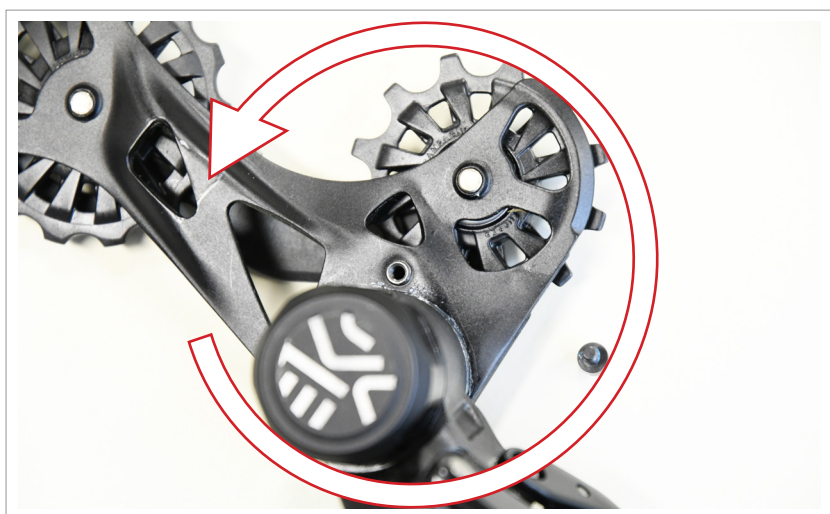

Fig.3
3) Accompany the jockey cage until the spring is completely unloaded (Fig. 3).